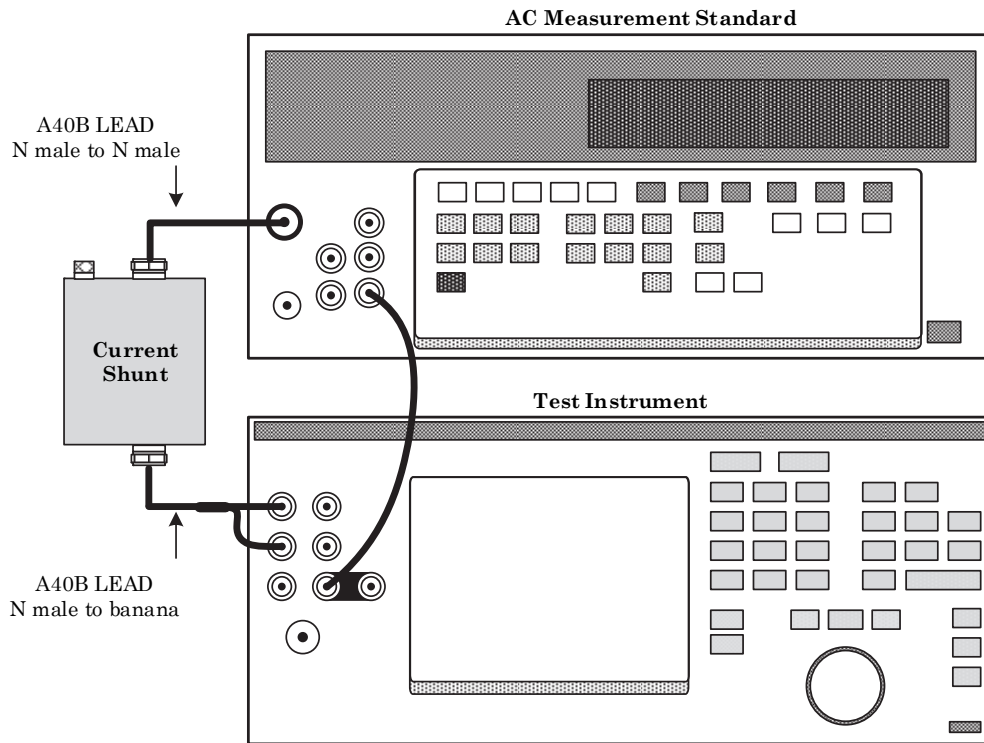

Figure 10. AC Current Connection.
- (1) Ensure that table 10 is populated with the test report values of the current shunts.
- (2) Connect equipment as shown in figure 10 using the first current shunt in table 10.